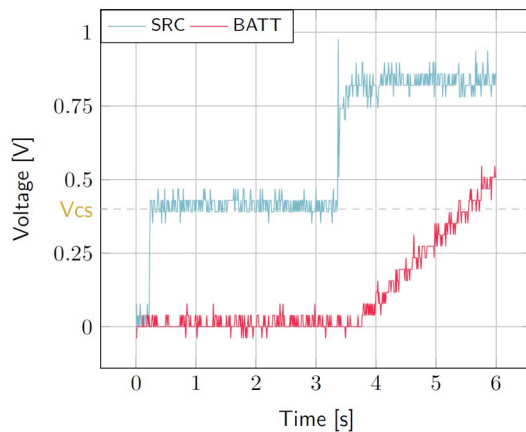

Figure 7: AEM10941 behavior during cold start
- **SRC**: Equal to the cold-start voltage during the cold-start phase. Regulated at the selected MPPT percentage of  $V_{OC}$  when cold start is over. (See Figure 7). Be careful that the cold-start phase time will shorten with the input power. Limit it to ease the observation.
- **BATT**: Starts to charge when the cold-start phase is over (see Figure 7).